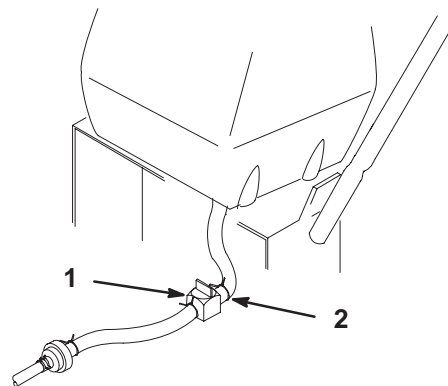

Figure 42
2. Close fuel shut-off valve at fuel tank (Fig. 42).
3. Squeeze the ends of the hose clamp together and slide it up the fuel line away from valve (Fig. 42).
4. Pull the fuel line off the valve (Fig. 42). Open fuel shut-off valve and allow gasoline to drain into a gas can or drain pan.
3. Close fuel shut-off valve at fuel tank (Fig. 42).
7. Open fuel shut-off valve at fuel tank (Fig. 42).
8. Check for fuel leaks and repair if needed (Fig. 42).